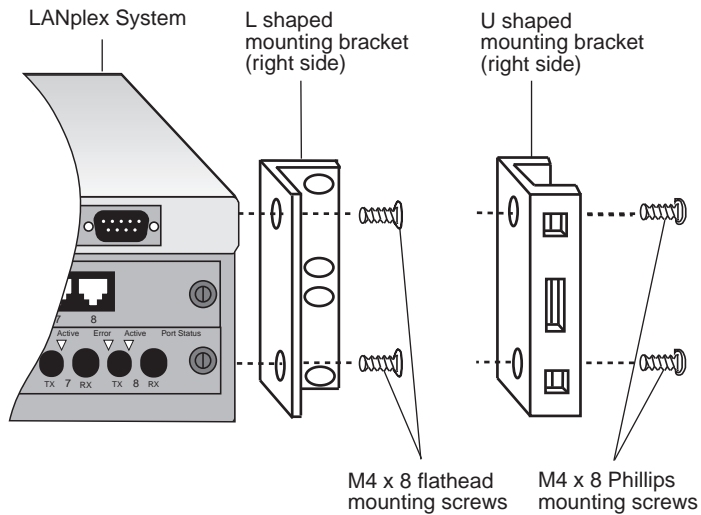

Figure 2-1 Installing System Mounting Brackets
- 1 You can attach the LANplex system to the rack using L-shaped mounting brackets or U-shaped mounting brackets. Choose a style of mounting bracket and its correct mounting hardware as shown in Figure 2-1 and attach them to the chassis.